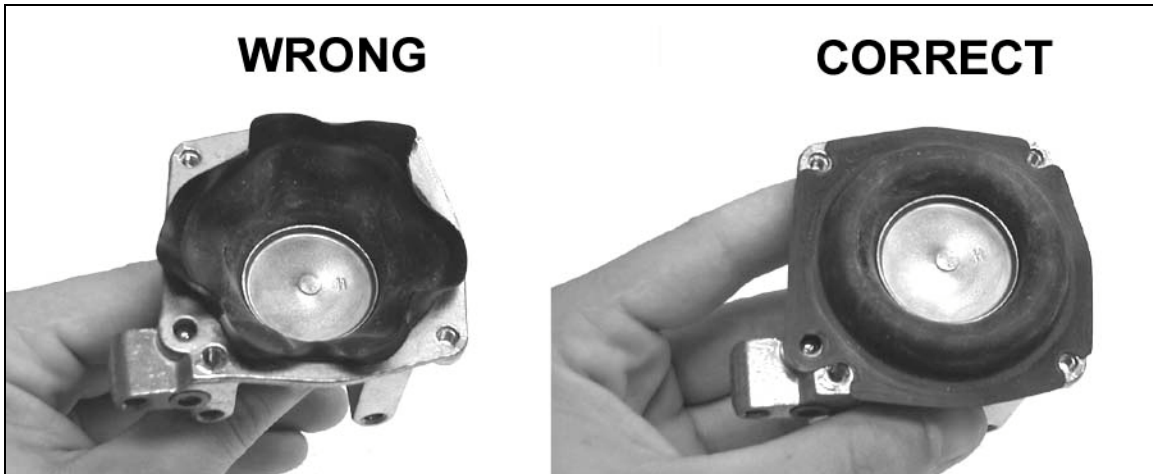

Figure 16
- TIP:** To make reassembling the diaphragm easier, push the diaphragm arm into the housing and form the diaphragm into a “mushroom” shape (Figure 16). Then position the diaphragm over the bolt holes and vacuum port. Hold the diaphragm in that position with your fingers while inserting the spring, cover, and bolts to avoid disturbing the position of the diaphragm.